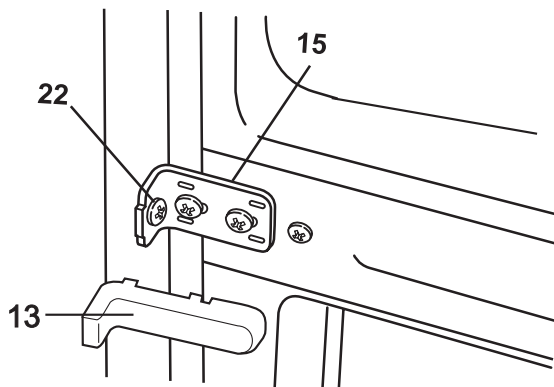

Figure 23
10. Reinstall middle bracket (**Fig. 23, 15**) to appliance. Attach bracket to kitchen cabinet with a screw (**Fig. 23, 22**). Snap cover into place.